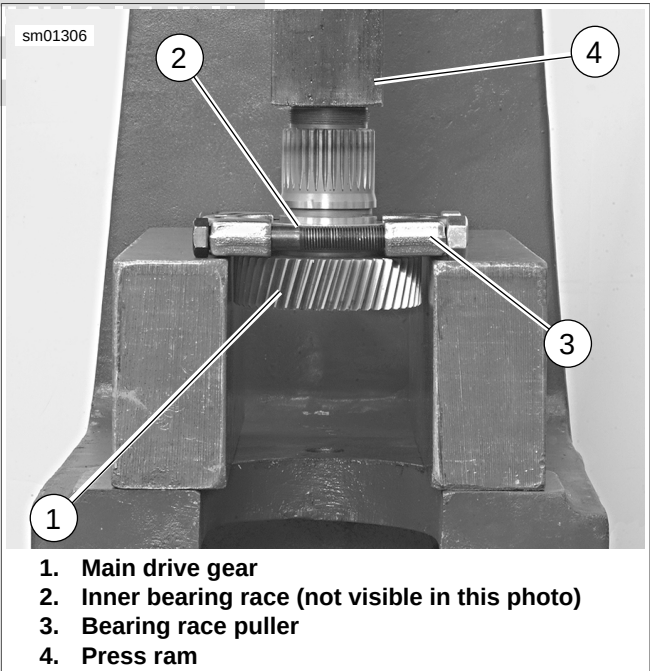

Figure 5-75. Removing Inner Bearing Race From Main Drive Gear (typical)
- 4. See Figure 5-75. Attach BEARING RACE PULLER (Part No. HD-95637-46B) (3) to inner race (2) on main drive gear (1).